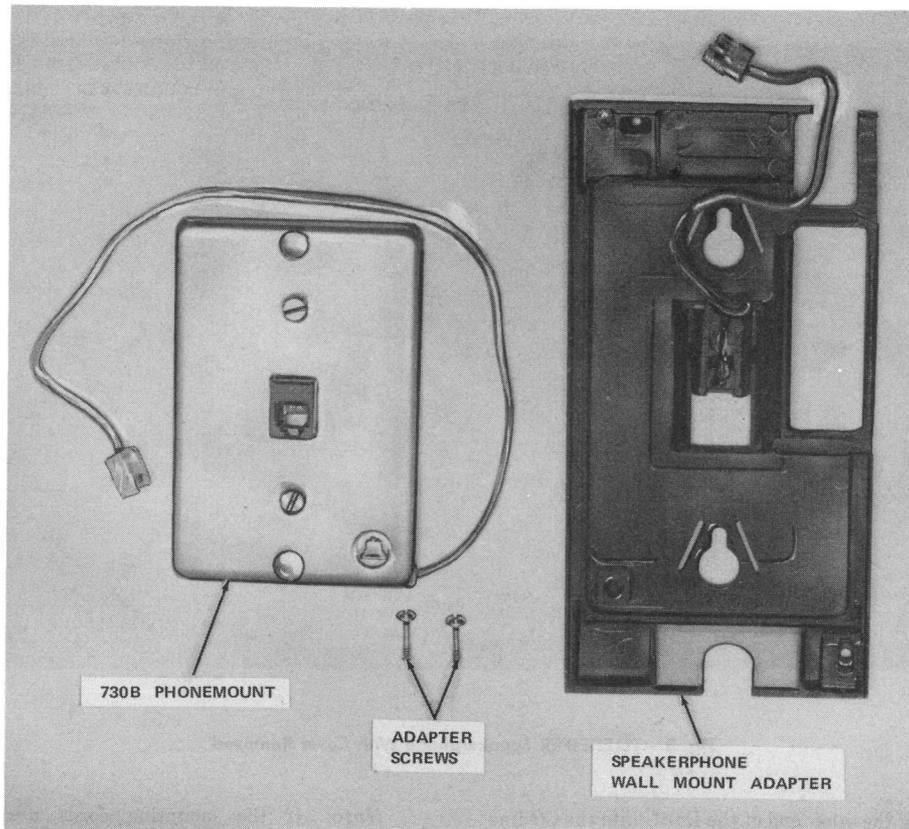

Fig. 2—D-181062 Kit of Parts Used When Wall Mounting Speakerphone
1.03 A D-181062 Kit of Parts is required when the speakerphone is to be wall mounted in conjunction with a wall telephone set (Fig. 2).
C. Wall Installation Using D-181062 Kit of Parts (Fig. 2)